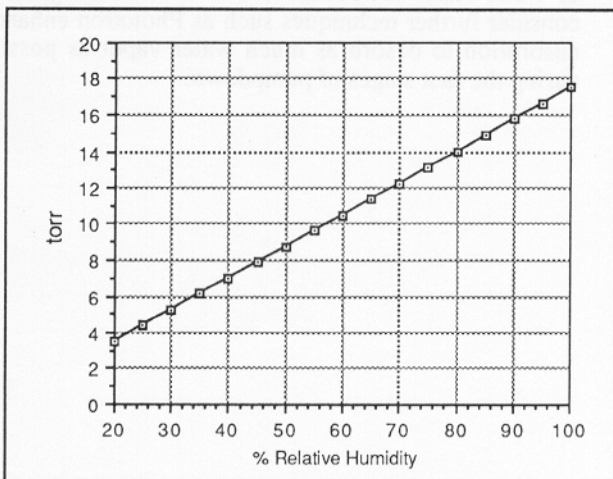
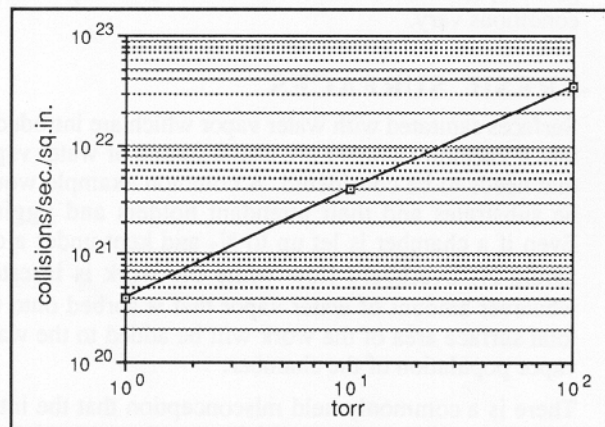

Figure 1. Partial Pressure of Water Vapor vs Relative Humidity.
Figure 2. Water Vapor/Wall Impacts vs Atmospheric Partial Pressure.
Water vapor is most commonly introduced to a vacuum chamber when it's let up-to-air to change workloads or some such operation. Since all atmospheric air contains at least some water vapor, there will be some water vapor entering your chamber with whatever percentage of water is present. The amount of water vapor (humidity) in the air is usually expressed in % relative humidity (%rh). Figure 1, which shows the partial pressure of water vapor in torr vs % relative humidity at 20°C, puts the units more in line with vacuum thinking and units.
If you look at Figure 2, you'll see the number of water molecule impacts/sec./in.² that are likely to occur at whatever partial pressure of water vapor is in the atmosphere at that time. If you look at Figure 1, and know the relative humidity, you can see the partial pressure of water vapor. Then, on Figure 2, you can read the number of collisions which you can multiply by the total square inches of internal surface area and the number of seconds of exposure.
1. Figure 1 says that 50% relative humidity is 8.75 torr partial pressure of water vapor.
2. Figure 2 says that 8.75 torr will impact a square inch 3.5×10^{21} times in a second.